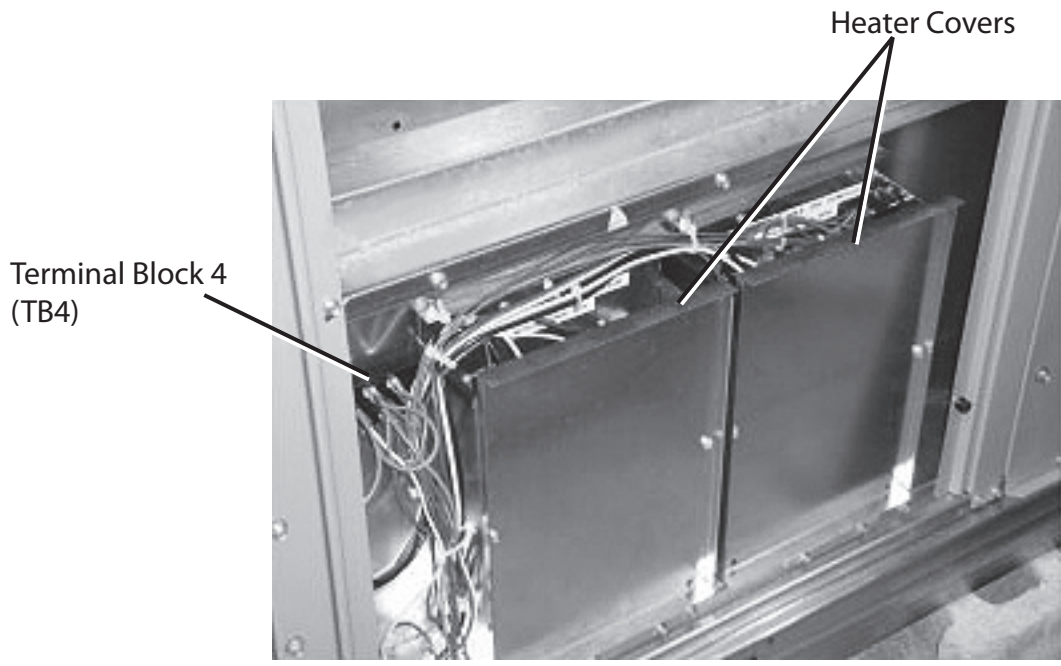

Fig. 47 - Heater Wiring and Covers
4. Fasten heater cover to heater module with 2 screws provided with heater. Flanges of cover must face out. (See Fig. 47.)